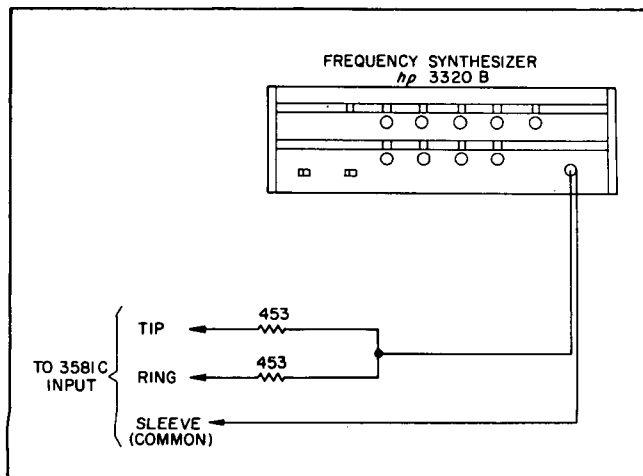

Figure 5-3. CMR Test.
f. Connect two 453 ohm resistors in series with the INPUT (see Figure 5-3).